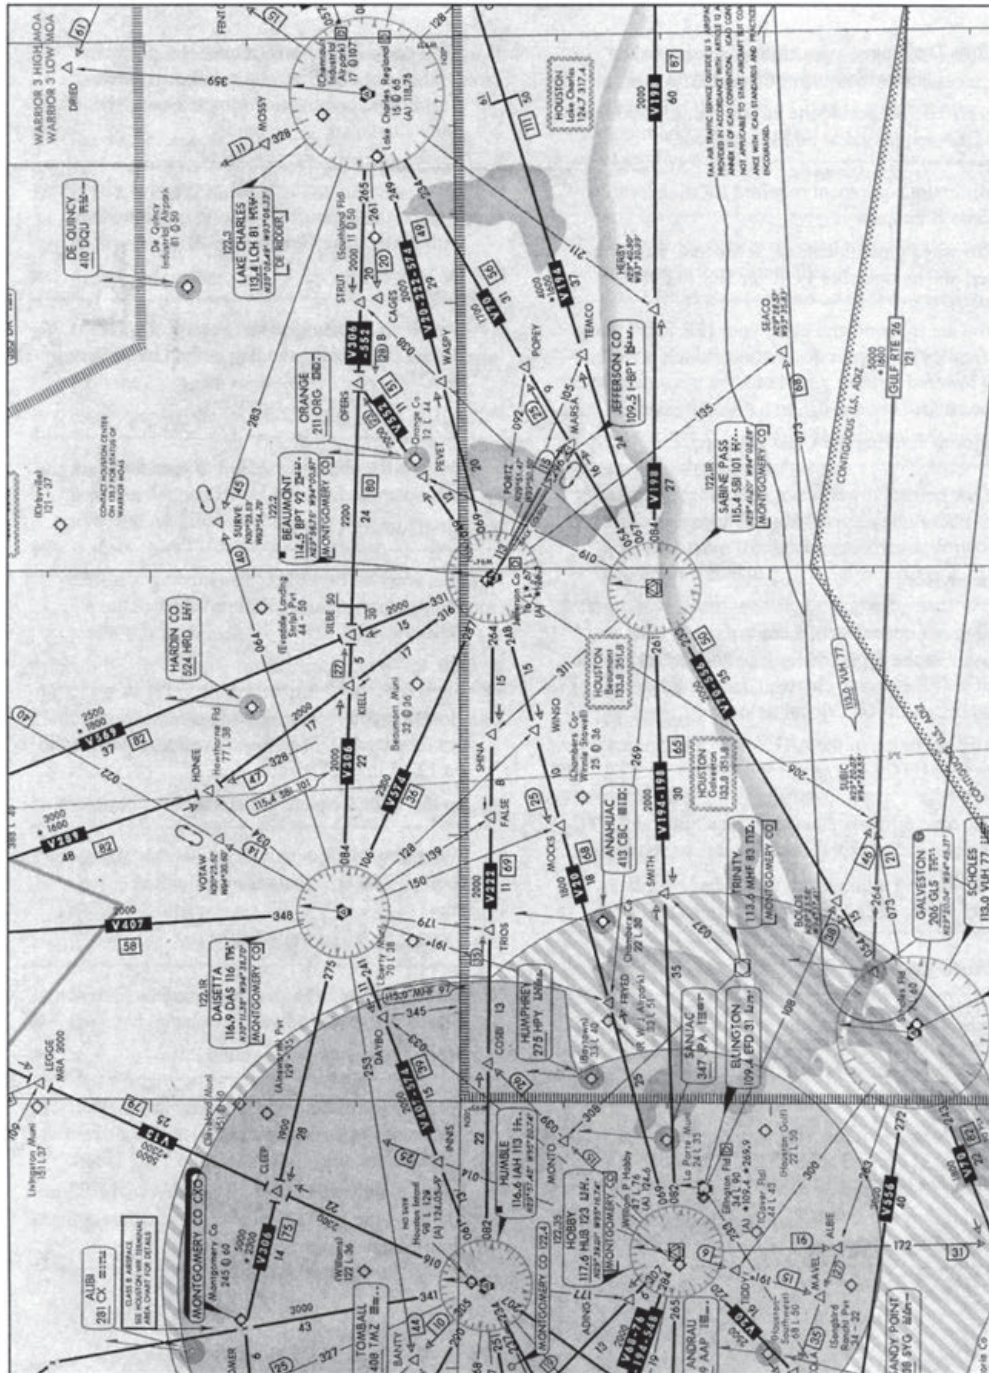

Figure 22-6 L-17 FAA low-altitude en route chart—excerpt of Galveston, Texas area (reduced in size).
*Refer to figure 22-6 (page 513)